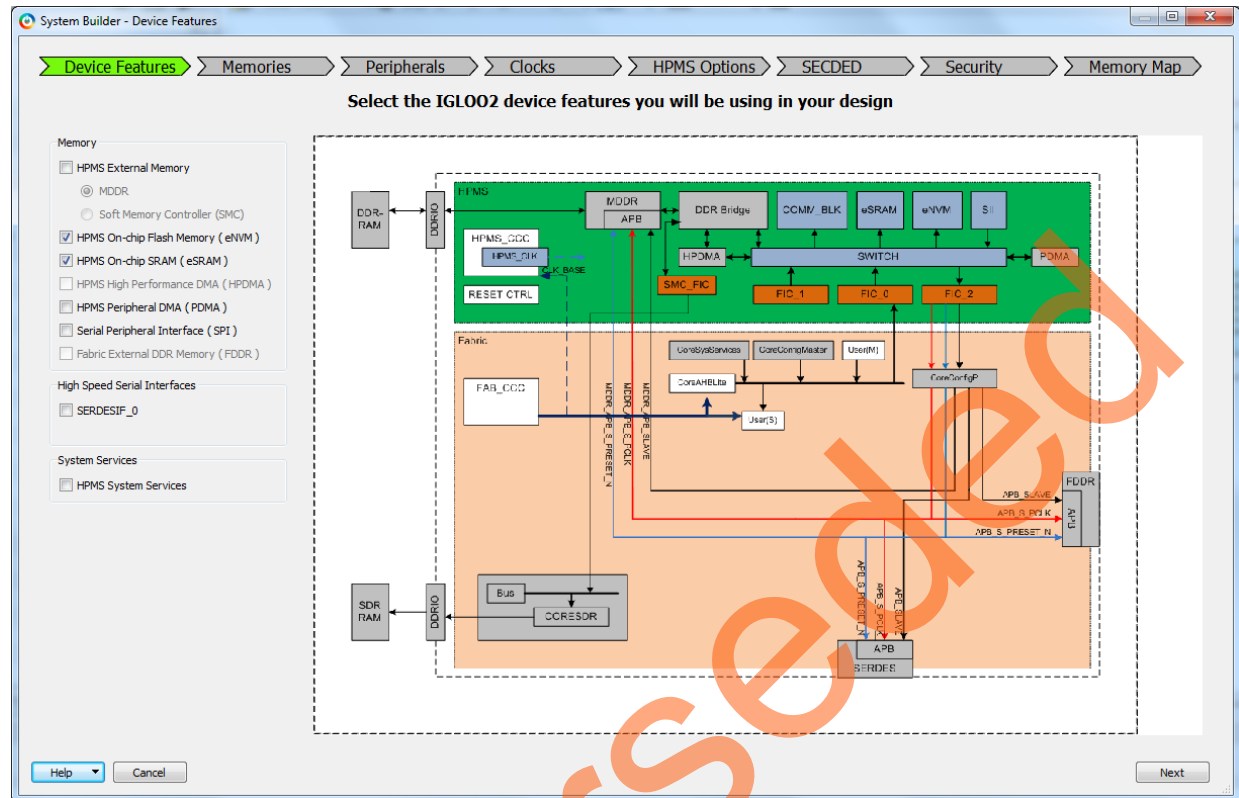

Figure 3 • IGL002 - Device Features Page
1. In the **Device Features** page, ensure that **HPMS On-chip Flash Memory (eNVM)** and **On-chip SRAM (eSRAM)** check boxes are checked, as shown in Figure 3.